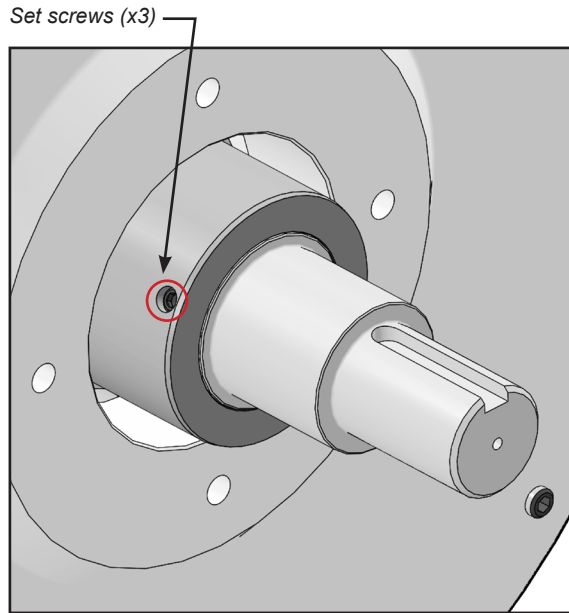

FIGURE 25
13. Prepare for removal of bushing by fully removing the three set screws previously loosened on the bushing (Figure 25).
21. Tighten the three setscrews located on the bushing; apply loctite if readily available (Figure 25).